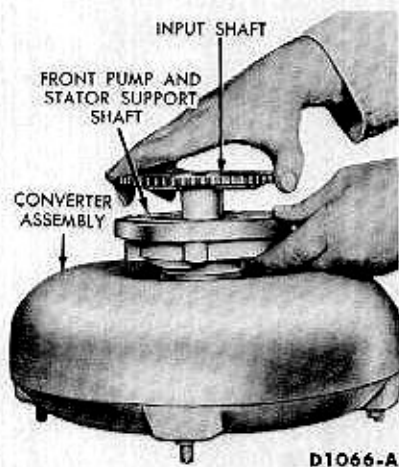

FIG. 3—Stator to Turbine Interference Check
3. Install the input shaft, engaging the splines with the turbine hub (Fig. 3).